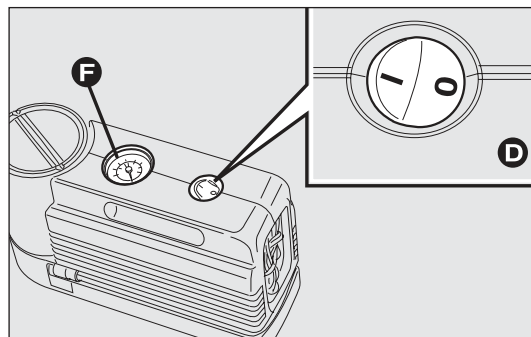
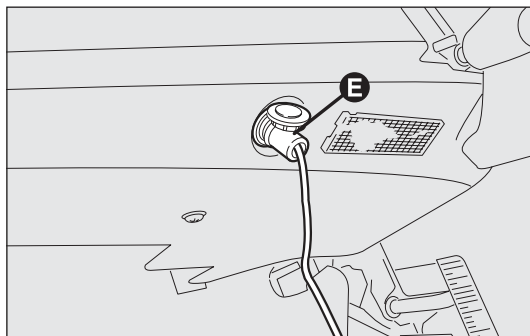

fig. 153
fig. 154
- ☐ make sure that switch D-fig. 153 for the compressor is in position 0 (off), start the engine, insert pin E-fig. 154 into the nearest socket and switch on the compressor by moving switch D-fig. 153 to position 1 (on) Inflate the tyre to the pressure specified in the "Tyre pressure" paragraph in the "Technical specifications" section.
For a more accurate reading, check pressure gauge F-fig. 153 with the compressor off;